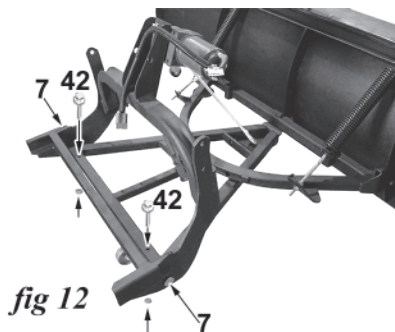

fig 12
8. Attach the main frame to the A frame using the two frame pins (7, fig 12). Lock the pins into the A frame with an M8 x 75 mm gr.8.8 hex head bolt (42, fig 12) inserted through an 8 mm washer, then the top of the frame at each end and secured with M8 nylock nuts.